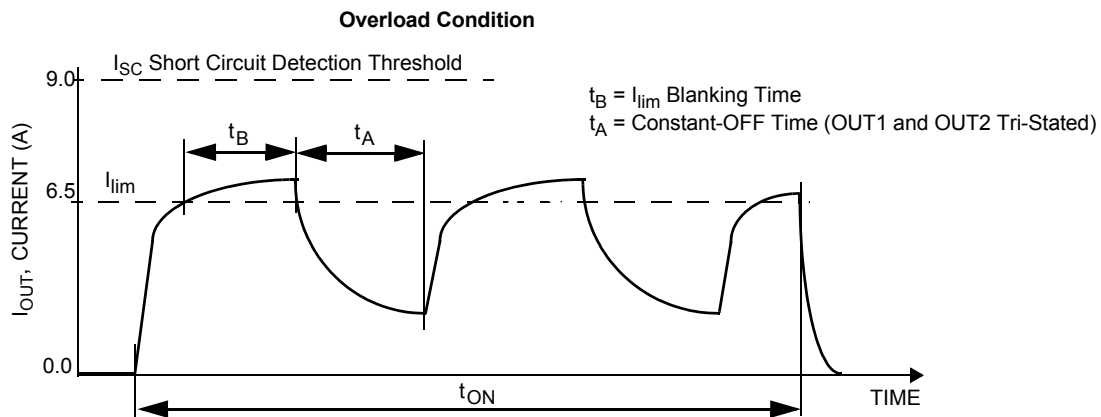
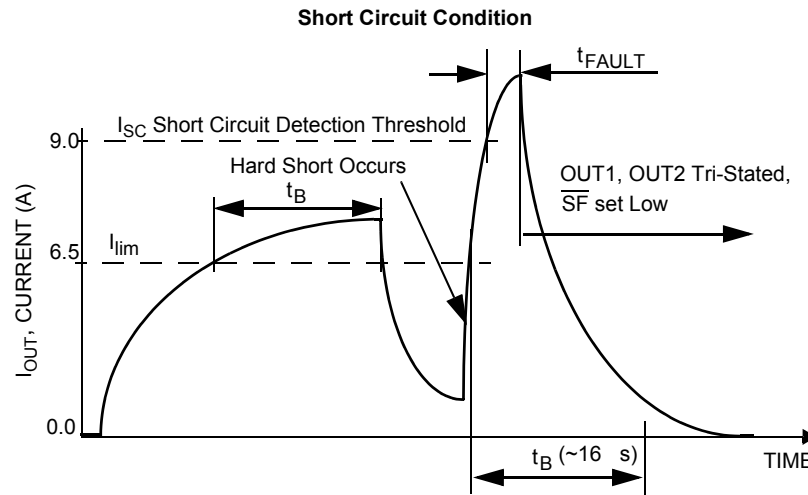
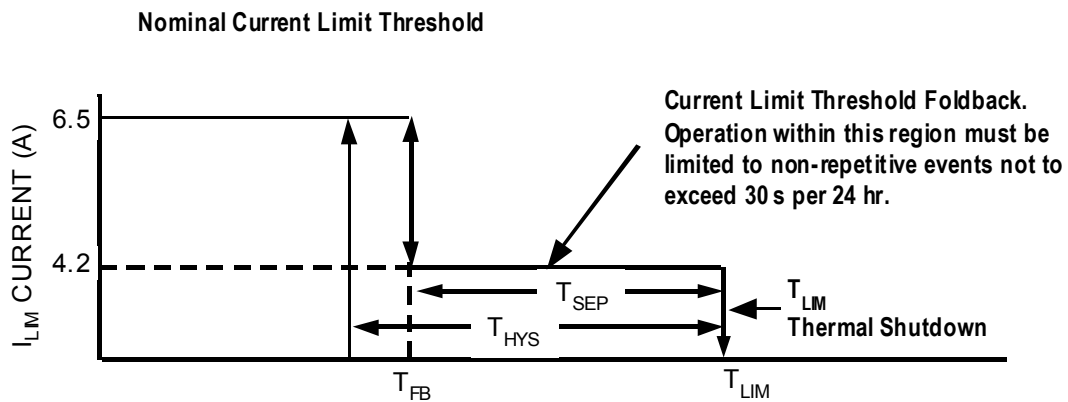

Figure 7. Current Limit Blanking Time and Constant-OFF Time
Figure 8. Short-circuit Detection Turn-OFF Time  $t_{FAULT}$
Figure 9. Output Current Limiting Foldback Region
28. Load currents ramping up to the current regulation threshold become limited at the  $I_{\text{LIM}}$  value (see Figure 7). The short-circuit currents possess a  $di/dt$  that ramps up to the  $I_{\text{SCH}}$  or  $I_{\text{SCL}}$  threshold during the  $I_{\text{LIM}}$  blanking time, registering as a short-circuit event detection and causing the shutdown circuitry to force the output into an immediate tri-state latch-OFF (see Figure 8). Operation in Current Limit mode may cause junction temperatures to rise. Junction temperatures above  $\sim 160\text{ }^{\circ}\text{C}$  will cause the output current limit threshold to “fold back”, or decrease, until  $\sim 175\text{ }^{\circ}\text{C}$  is reached, after which the  $T_{\text{LIM}}$  thermal latch-OFF will occur. Permissible operation within this fold back region is limited to non-repetitive transient events of duration not to exceed 30 seconds (see Figure 9).